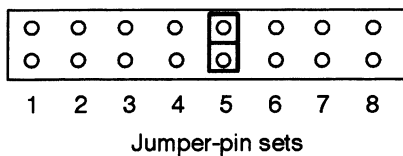

Figure 3 Front jumper-pin set 5 installed
1. Make sure a jumper is installed across jumper-pin set 5 (Figure 3).